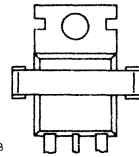

Fig. 2a Position of transistor (top view).
3. Push down the clip over the device until the long end of the clip snaps into the wide slot in the heatsink. The clip should bear on the plastic body, not on the tab (see Fig. 2a).